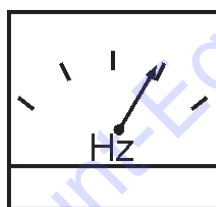

Figure 43. Frequency Meter (Hz)
8. The generator's frequency meter (Figure 43) displays the 60 cycle output frequency in **HERTZ**.